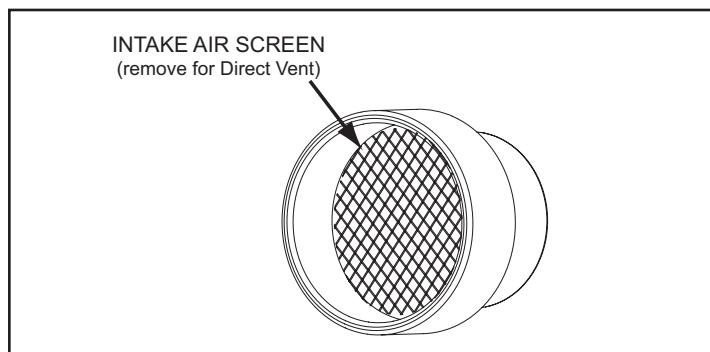

Figure 17. Intake Air Screen
- Ensure the Intake Air Screen on the Intake Air Connection is removed before connecting the intake air pipe to the water heater. See *Figure 17*.